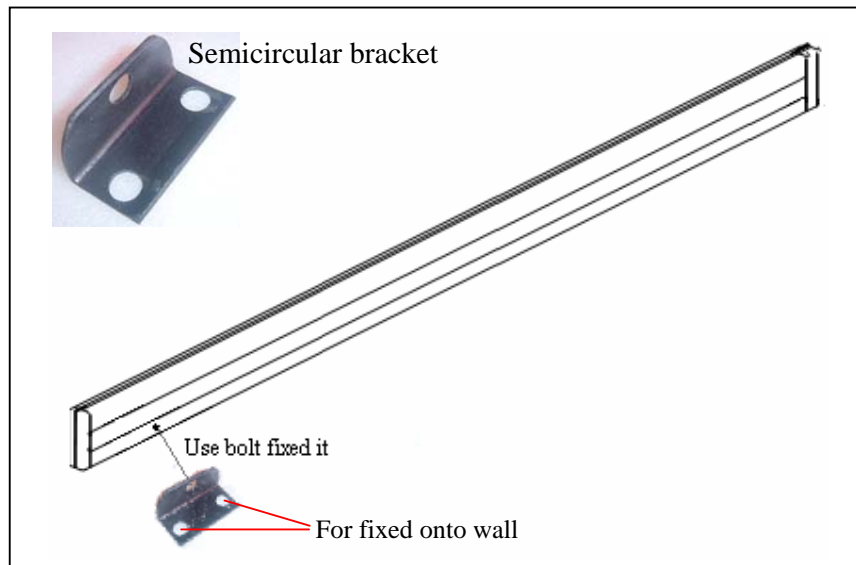

Fig3.8
- 3) Installing the bracket on the cabinet(fig3.8 shows).